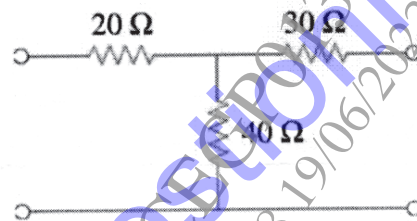

Fig. 1
b) Determine the z parameters for the circuit shown in Fig. 1. [6]